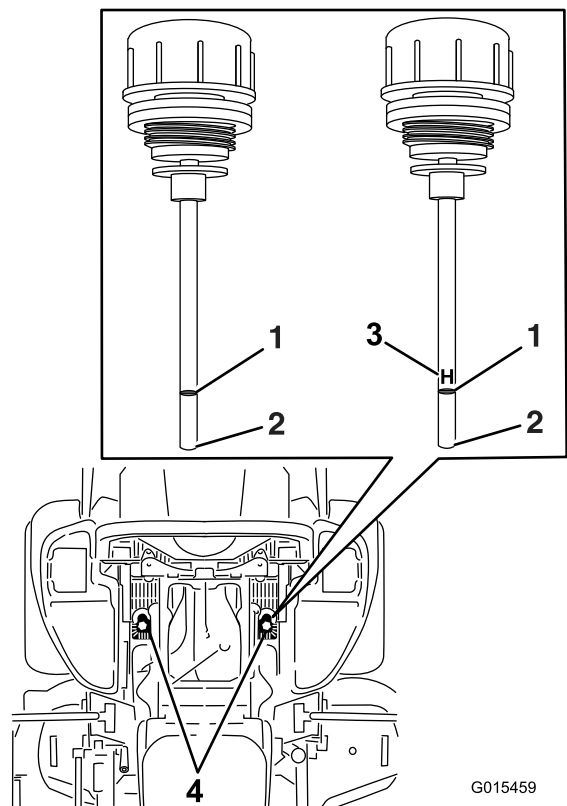

Figure 99
5. Clean the area around the dipsticks of hydraulic-system reservoirs (Figure 99).
6. Remove 1 dipstick from the hydraulic reservoir (Figure 99).
8. Remove the dipstick and look at the end (Figure 99).